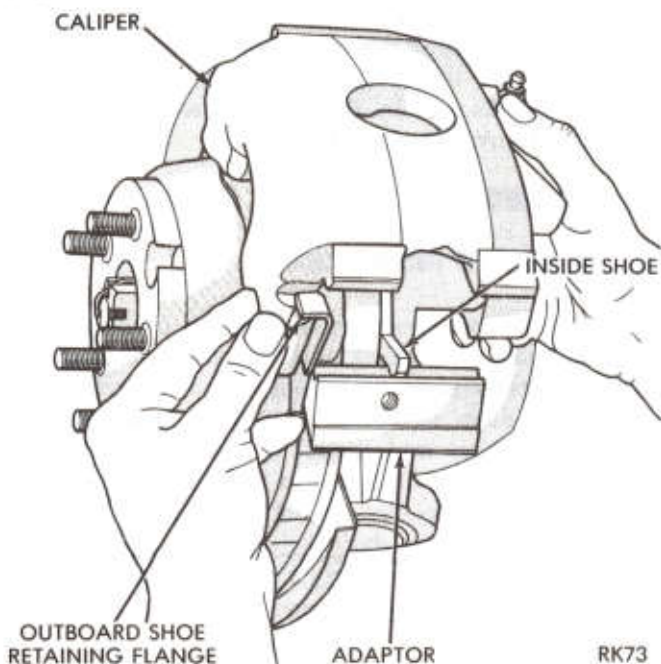

Fig. 5—Removing or Installing Caliper
Flanges on the outboard shoe (Fig. 5) are used to radially locate and position the shoe on the caliper fingers. The inboard shoe is held in a captive position by the adaptor (Fig. 6). All braking force on the outboard shoe is taken by the caliper. The inboard shoe reacts directly on the adaptor.
- (4) Remove caliper from disc by slowly sliding caliper assembly out and away from disc (Fig. 5).
(4) Remove retaining screw, retaining clip (and anti-rattle spring) that attach caliper to adaptor (Fig. 1). Carefully slide caliper out and away from disc and adaptor (Fig. 5).